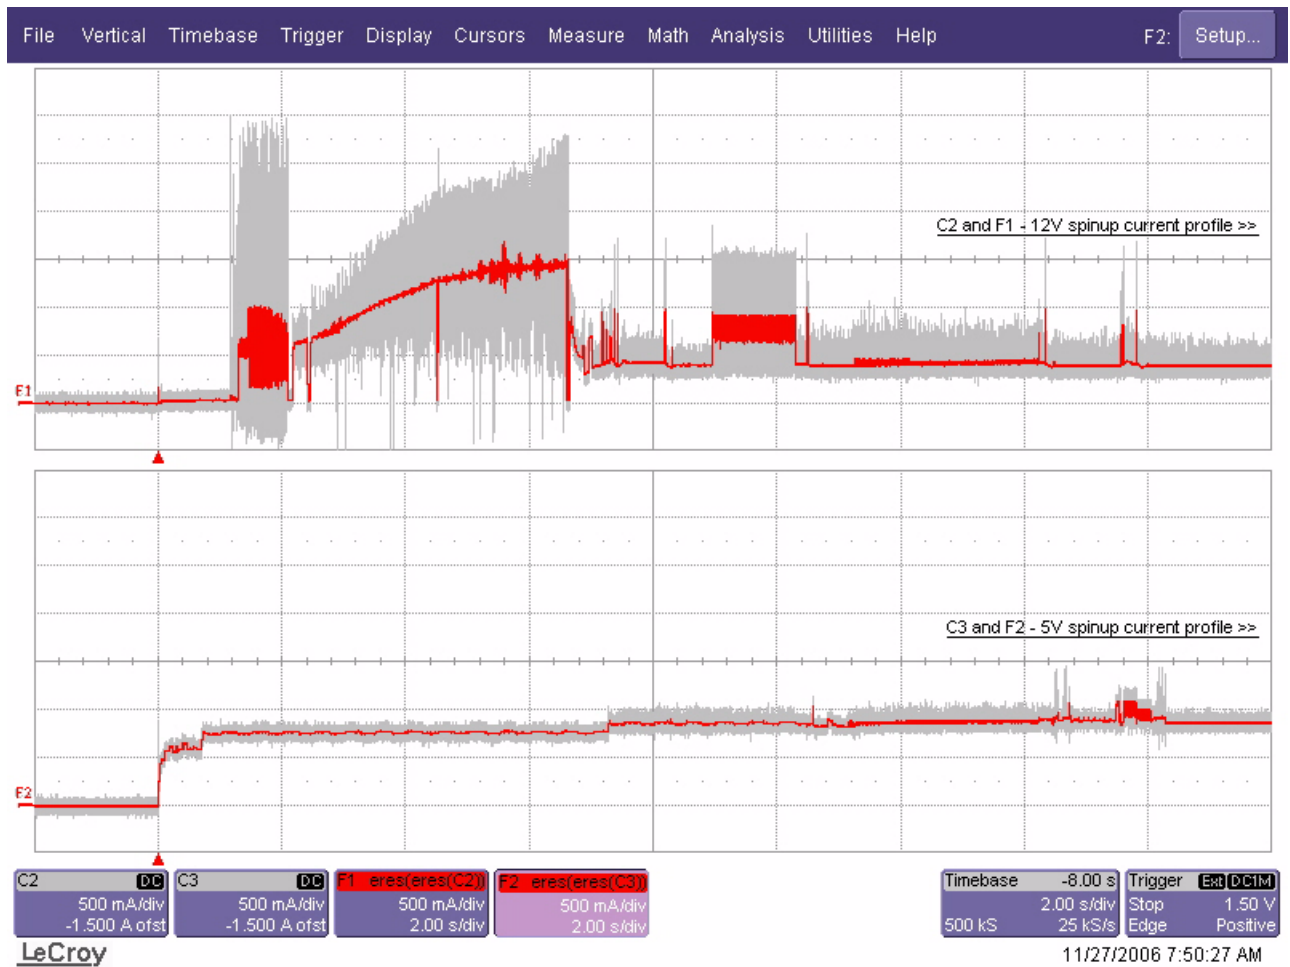

Figure 1. Typical ST3400755FC drive, 4 Gbit, +5V and +12V current profiles
- [3] See +12V current profiles in Figures 1 and 2.